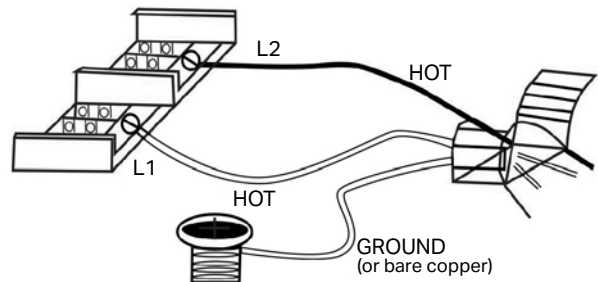

Figure 7
3. Pull enough wire into the heater and connect to wire to the Power Block located in the electrical area of the heater, See **Figure 7**.